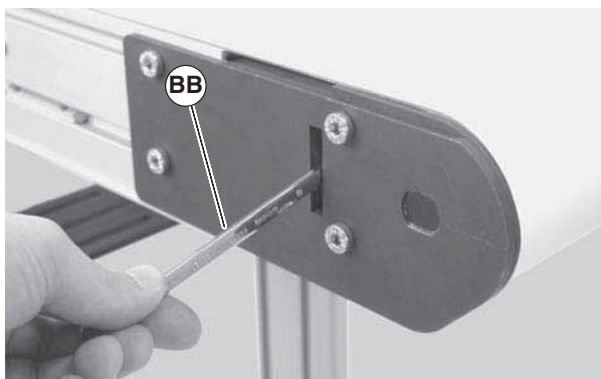
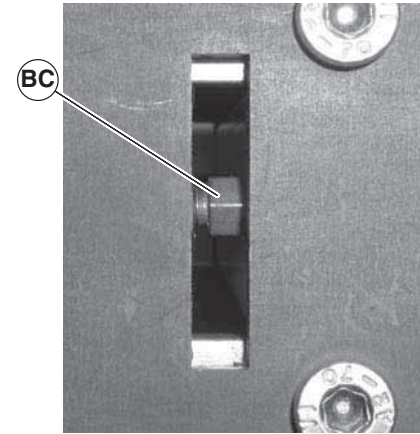

Figure 37
Figure 38
3. With the conveyor running, use wrench (Figure 37, item BB) to rotate the tracking screw (Figure 38, item BC) in small increments until the belt tracks in the center of the conveyor.